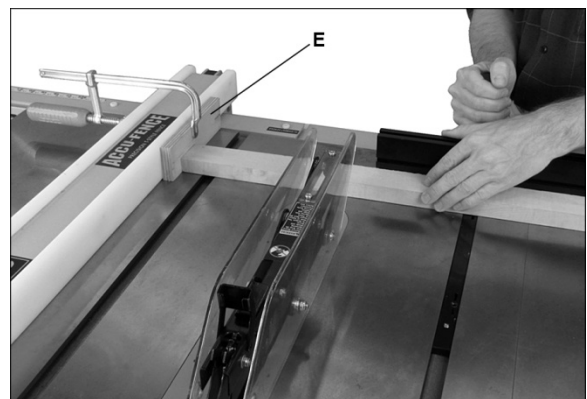

Figure 37
- ❑ Do not use miter gauge and rip fence in the same operation unless provision is made by use of a facing board on the fence, to allow the cutoff section of workpiece to come free before the actual cut begins (See Figure 37).
Crosscutting should **never** be done freehand, nor should the fence be used as an end stop unless an auxiliary block (E, Figure 37) is clamped to the front of the blade area such that the cutoff piece comes free of the block before cutting begins.